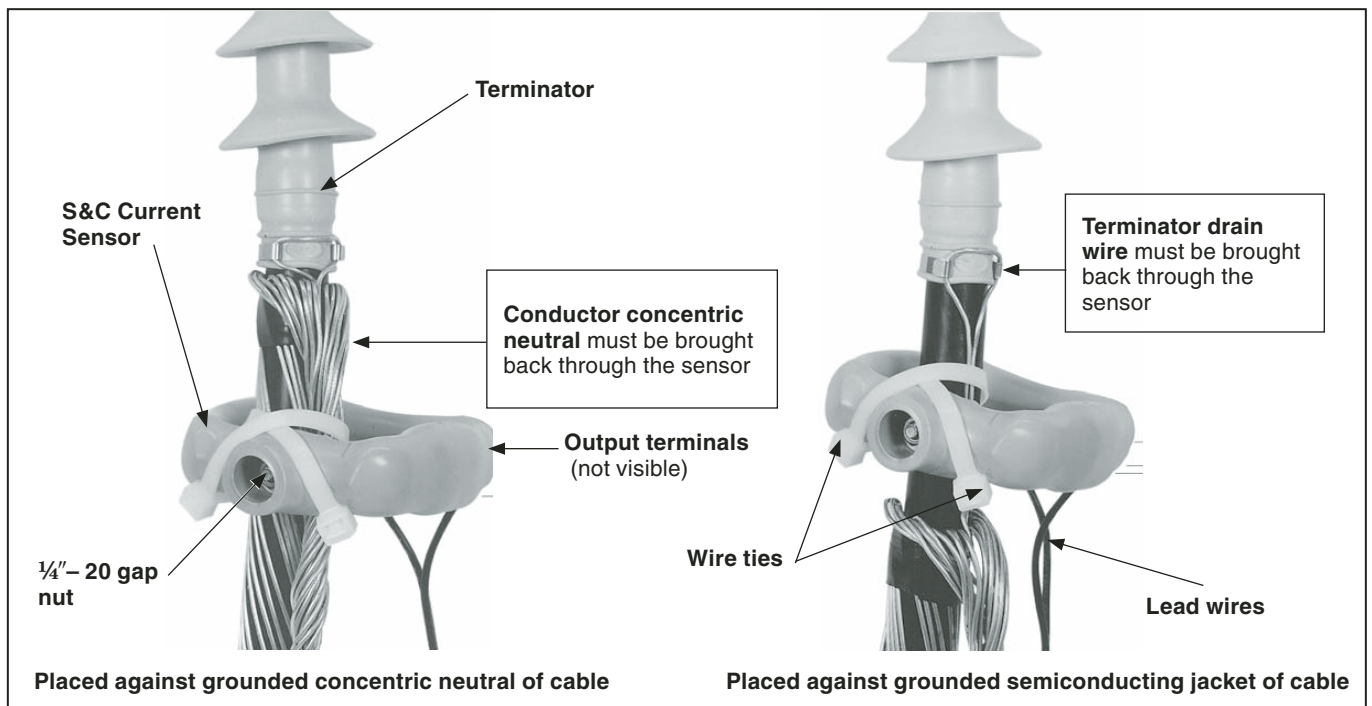

Figure 24. Typical methods for attaching S&C Current Sensor to high-voltage cable.
2. Secure the current sensor to the high-voltage cable at a point below the cable terminator or stress cone using the plastic wire ties furnished. See Figure 24. The current sensor may be placed against the grounded concentric neutral of the cable—in which case the concentric neutral *must* be brought back through the sensor—or it may be placed against the semi-conducting jacket of the cable—in which case the drain wire of the terminator *must* be brought through the sensor.